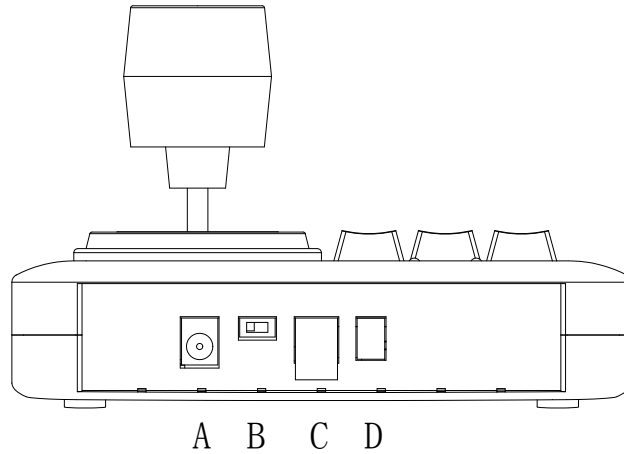

Figure 2
- ### 2. Back panel board (Figure 2)